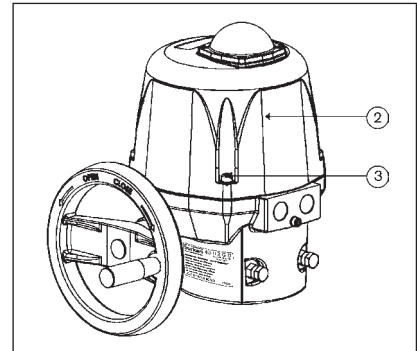

Figure 11: Removing hood
- Remove hood 2 by loosening the four fastening screws 3 (see “Figure 11”).